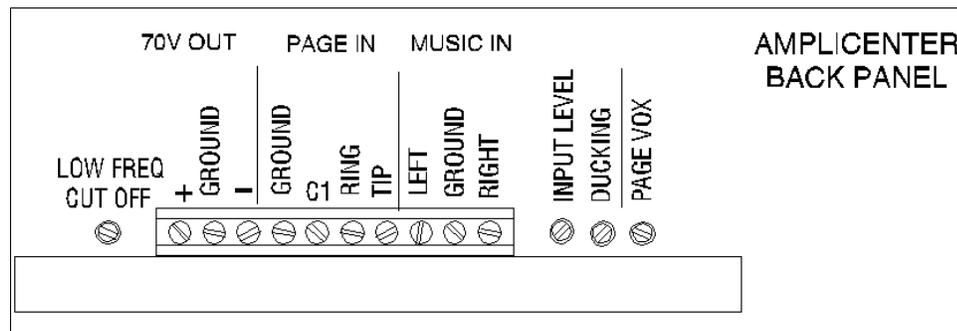

Figure 9. Sound Level Adjustments on AmpliCenter
- a. Adjust the Low Frequency Cut Off control to center position. This control cuts out the low frequency bass so that horns and small speakers are not over-driven and distorted by excessive bass energy. Cut-off frequency is continuously adjustable from 50Hz (full CCW rotation) to 400 Hz (full CW rotation). See Figure 9.